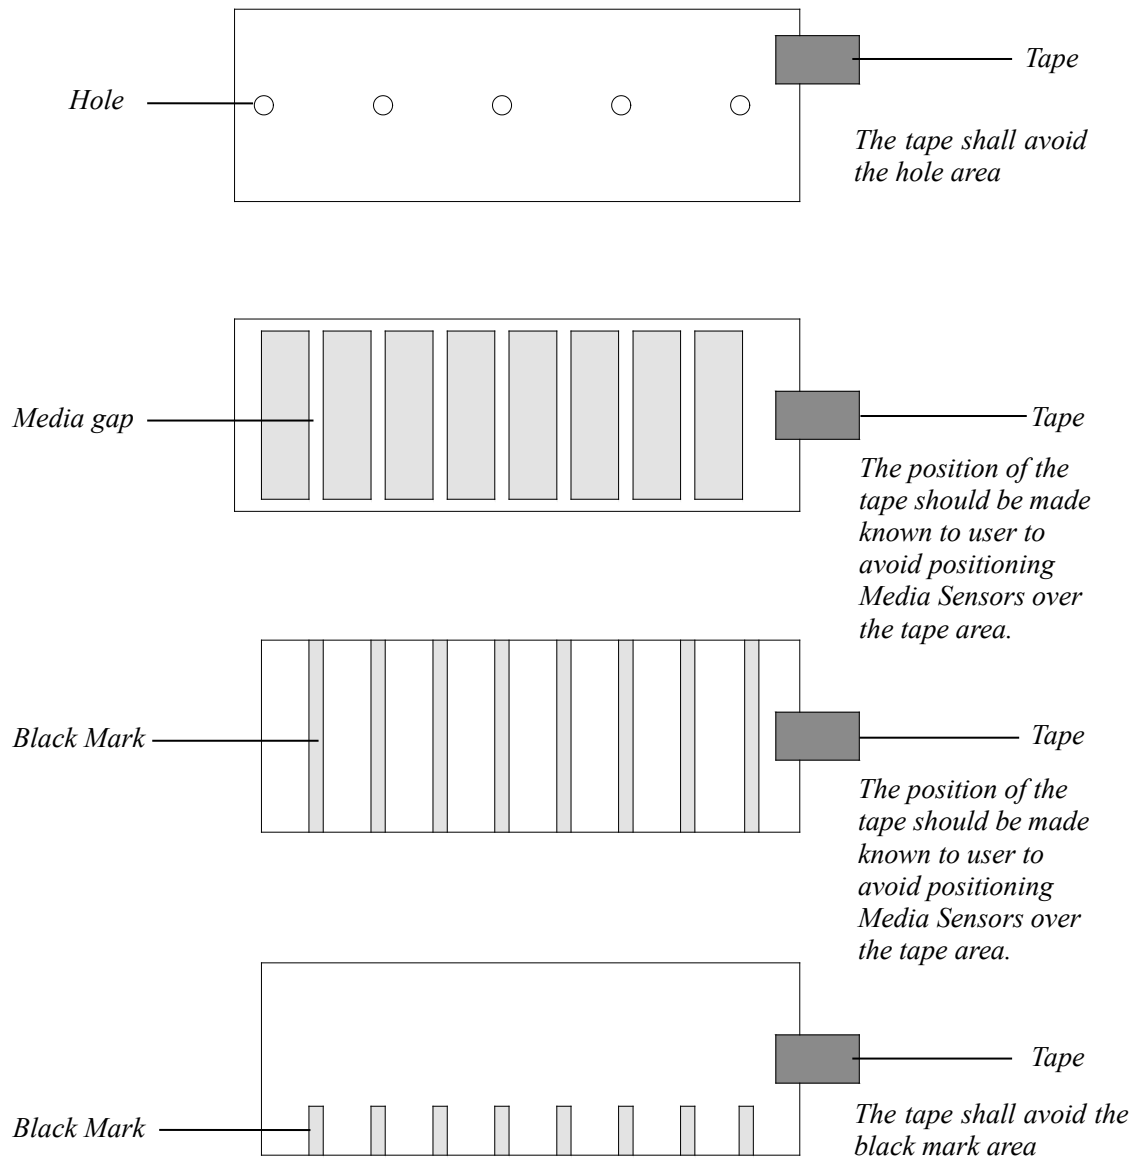

Figure 3-41 End-fixing Tape Position
- When roll media is produced, the media end would be fixed on the media core with duct tape or scotch tape. If your printer cannot detect the Media Out signal well, please refer to Figure 3-41 to check the position of the tape.